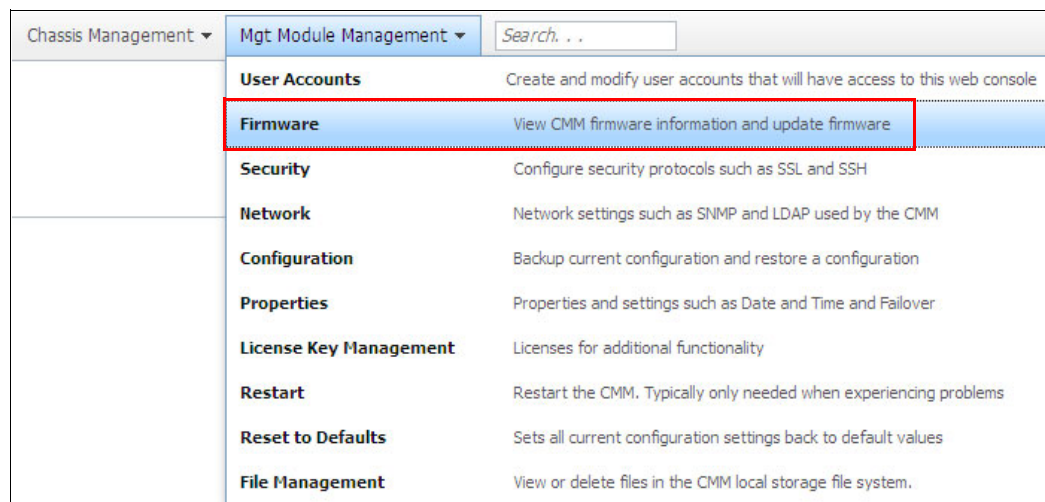

Figure 4-19 Mgt Module Management menu
1. In the CMM web interface, select **Firmware** from the **Mgt Module Management** menu, as shown in Figure 4-19.